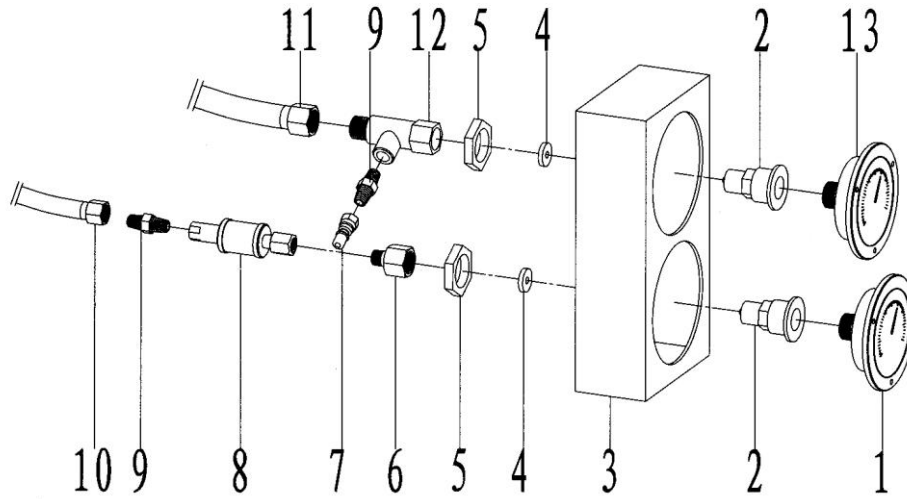

Fig.7-26
26. Oil filled equipment (Fig7-26, Table26)